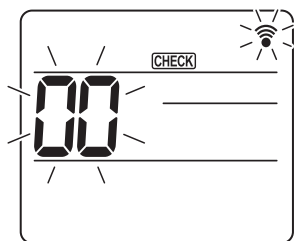
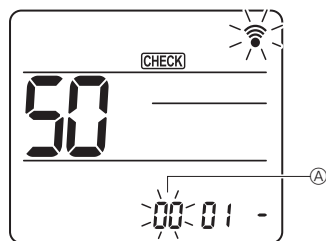
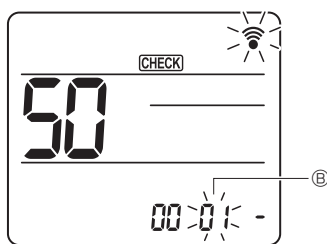
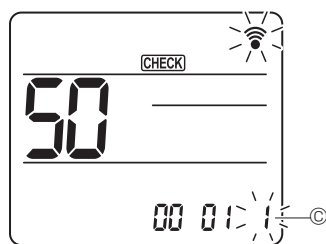

Fig. 7-18
Fig. 7-19
Fig. 7-20
Fig. 7-21
7.4.2. By wireless remote controller (Fig. 7-18, Fig. 7-19, Fig. 7-20, Fig. 7-21)
① Going to the function select mode
(Start this operation from the status of remote controller display turned off.) [CHECK] is lighted and "00" blinks. (Fig. 7-18)
② Setting the unit number
Press the [DOWN] button to set unit number ①. (Fig. 7-19)
③ Select a mode
Press the [DOWN] button to set Mode number ②. (Fig. 7-20)
④ Selecting the setting number
Use the [DOWN] button to change the Setting number ③. (Fig. 7-21)